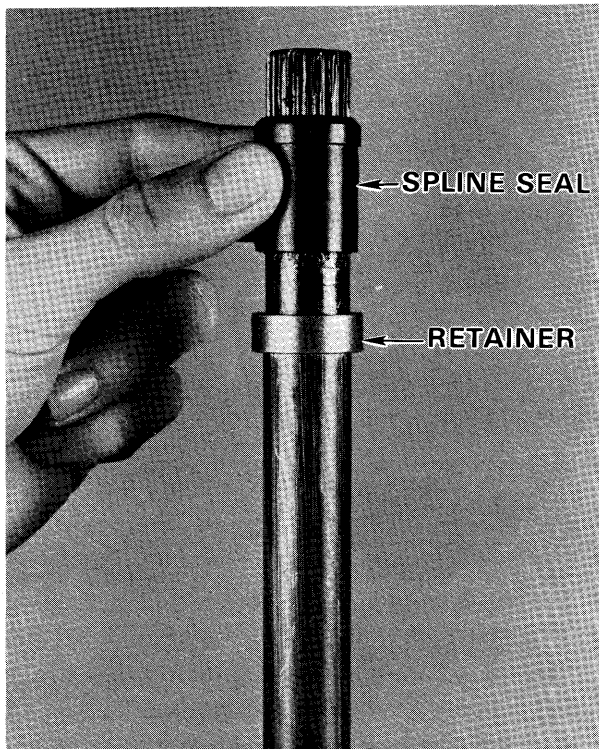

Figure 3—Installing Driveshaft Spline Seal
- A. Place retainer and spline seal on driveshaft as shown in figure 3.